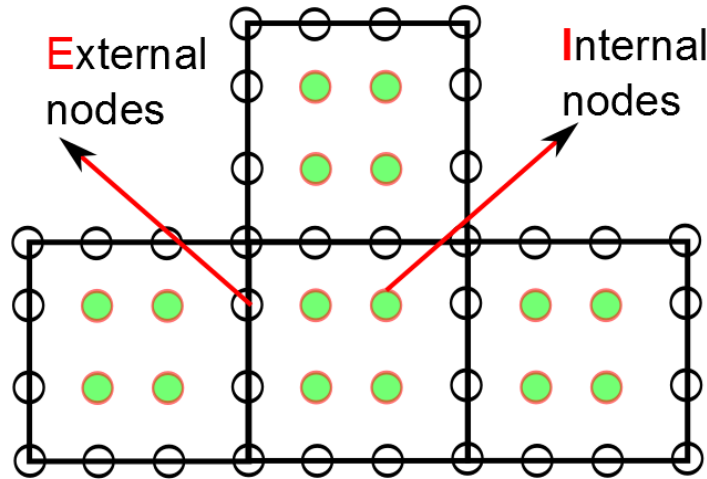

Figure 2: Internal nodes that can be condensed at the element level before global assembly
3. **85 Points** **Static condensation (continuation of HW5):** In course notes pages 331-334 we discussed how prescribed dofs can be eliminated at the global assembly stage if all dofs (free + prescribed) are assembled into the global system. We compared that approach with common approach of only assembling only the free dofs. The same decomposition of the matrix can be used in “condensing” the internal dofs of higher order elements (those that have the so-called “bubble shape functions”) at the element level and only assembling the dofs that are shared between the element level at the global stage. This can substantially reduce the total number of dof and result in much smaller global stiffness matrix to solve. An example can be seen in fig. 2 where the average dof per element (assuming there is one dof per node) reduces by about a factor 2 (below)! The stiffness matrix at the element level can be written as,
- **15 Points** Show the average dofs per element for the 3rd order rectangle in fig. 2 before condensation is 9 and after condensation the average reduces to 5. For this type of analysis we ignore the effect of dofs on the boundaries of the domain (*i.e.*, domain is infinite). This approximation is correct when number of elements in each direction is (very) high.